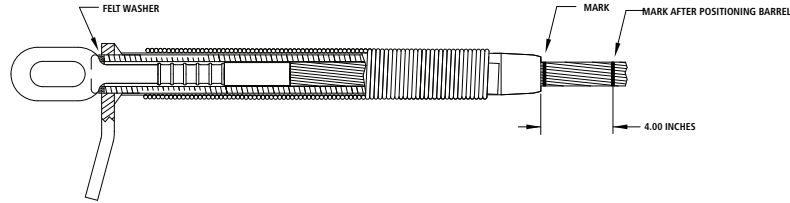

Fig. 6
- Slide the conductor/forging assembly into the barrel of the Dead End, until the felt washer is seated against the end of the barrel. (The felt washer must be tight against end of barrel to form a seal) The "mark" should now be visible at the end of the barrel. **See illustration shown in Fig. 6.** Add "Mark" 4 inches from end of Barrel. (To verify no "pull out," **see Step 7.**)